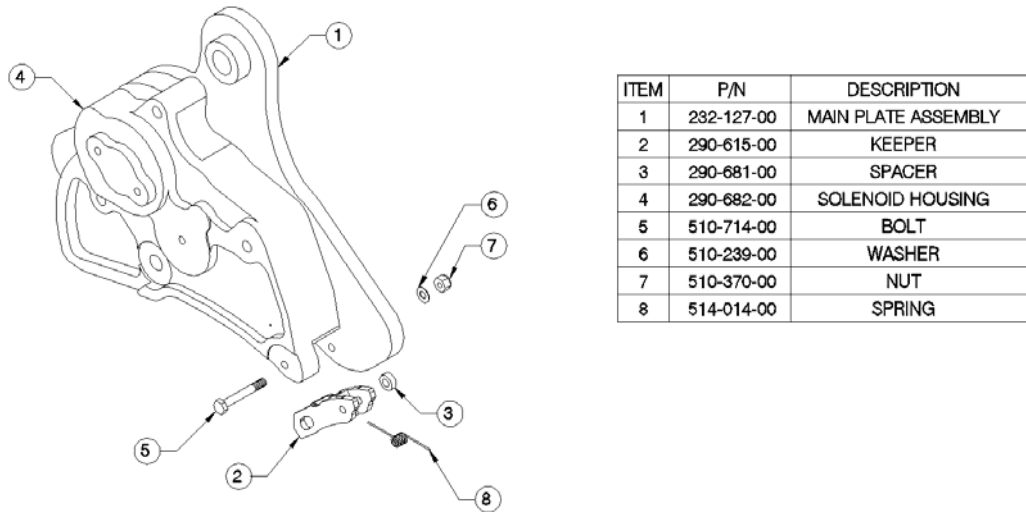

Figure 2 — Illustrated Parts
2. Figure 2 below gives an illustrated parts list of the replacement parts and parts to be modified.